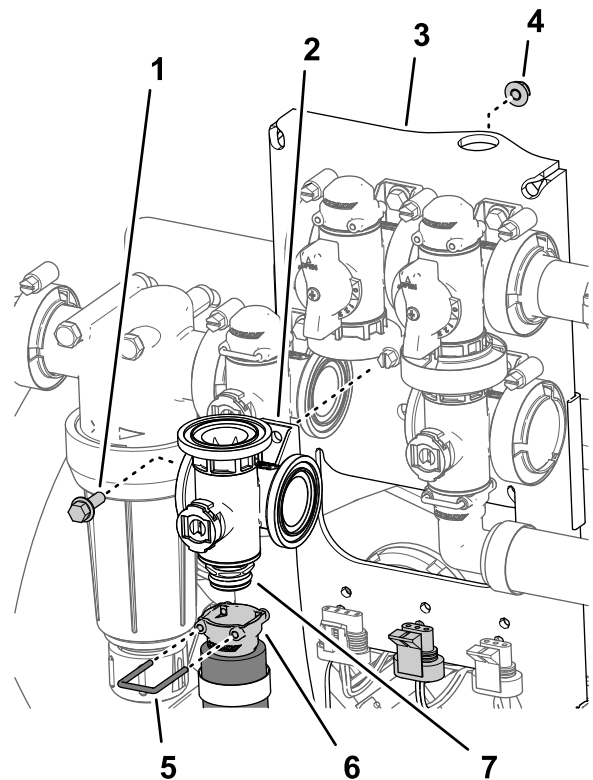

Figure 116
2. Remove the retainer that secure the quick-disconnect socket to the manifold quick-disconnect coupling for the agitation valve (Figure 116).
3. Remove the flange-head bolt (1/4 x 3/4 inch) and flange locknut (1/4 inch) that secure the agitation valve to the valve mount and remove the valve manifold from the machine (Figure 116).